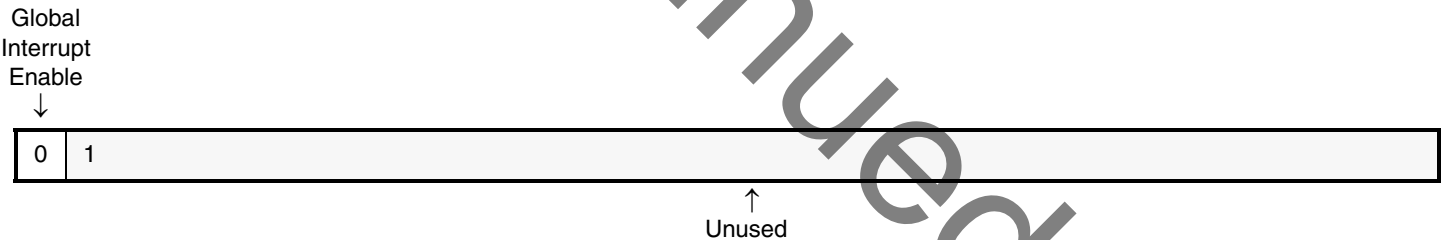

Figure 2: Device Global Interrupt Enable Register
2. The bit mapping is shown in Figure 2.
The Device Global Interrupt Enable Register provides the final enable/disable for the interrupt output to the processor and resides in the IPIF. This is a single bit read/write register as shown in Figure 2. Table 5 shows the GIE bit definitions.